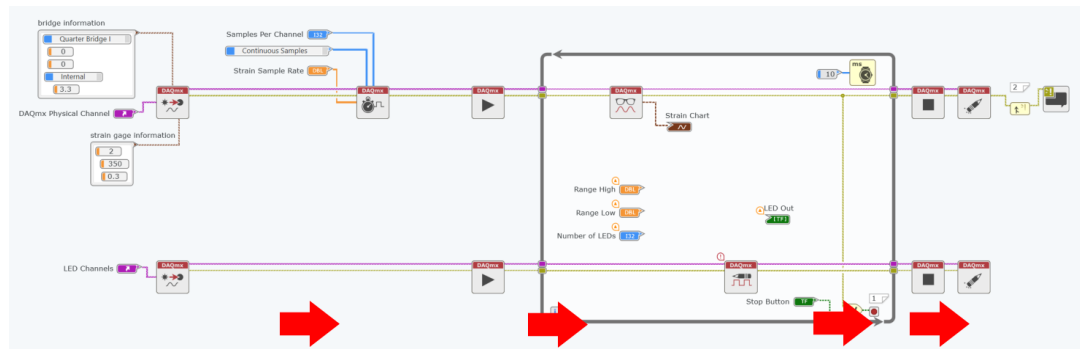

Figure 5-31 Wiring the task and error wires through dictates the flow of your code.
- Wiring the task and error wires through each of the DAQmx VIs like in Figure 5-31.